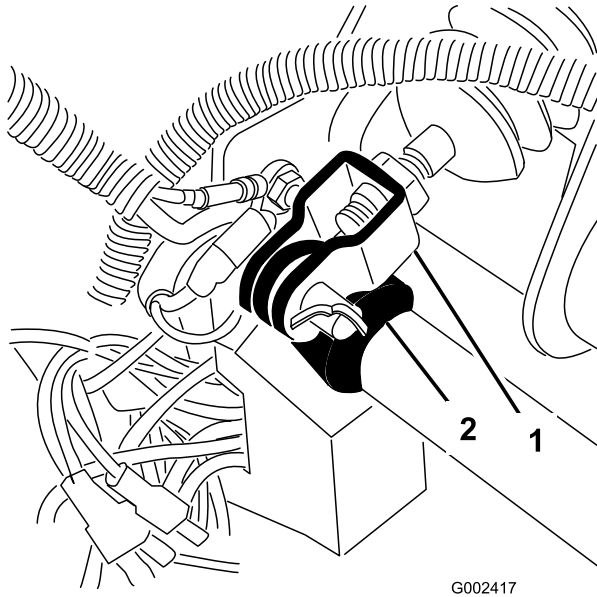

Figure 64
1. Remove the cotter pin and clevis pin securing the master cylinder yoke to the brake-pedal pivot (Figure 64).